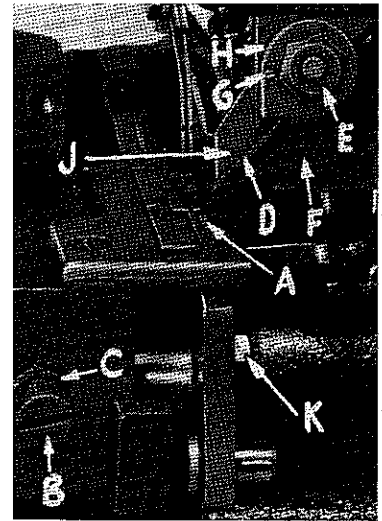

Fig. 11
Replace lower knife holder assembly. Lower knife (A, Fig. 11) should be set with cutting edge flush with throat plate surface. Adjustments are made with hexagonal head screw (K) which holds lower knife. Lower knife is spring pressed against upper knife, so no lateral adjustment is necessary when width of trim is changed.
Replace upper knife assembly. Clamp upper knife (D, Fig. 11) in position, setting nut (E) to hold clamp (F) in its most clockwise position against upper knife. At bottom of its stroke, front cutting edge of upper knife should extend not less than 1/64 inch (.40 mm) below cutting edge of lower knife. The chain guard (J) should be set down against the upper knife and slightly back from the cutting edge.